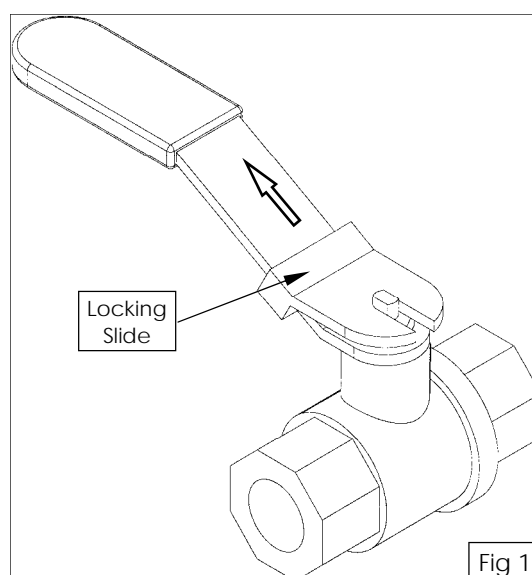

Fig 1
- a. Lift the locking slide on valve handle (Fig 1) to release valve.